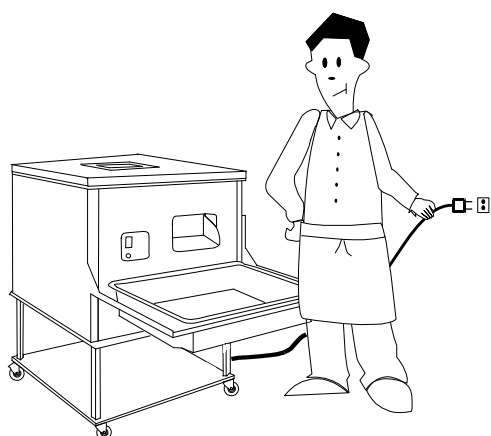

FIG. 4
- Make sure that the master switch is in the OFF position. Connect the plug to the electrical net (FIG .4)